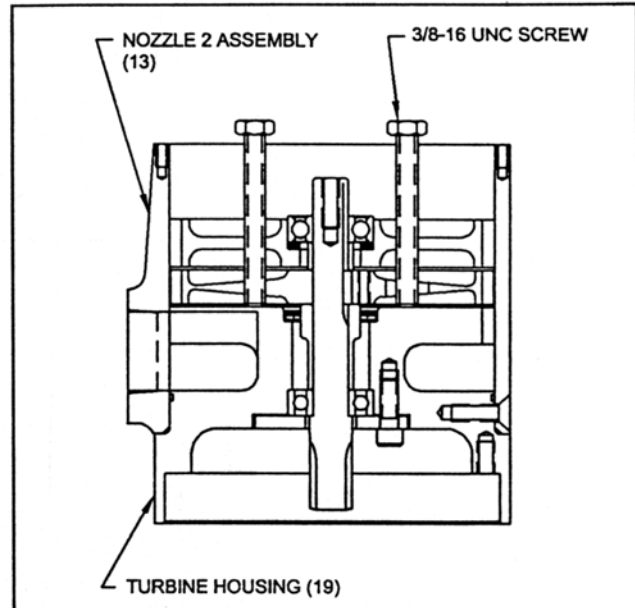

Figure 9. Nozzle 2 Removal
Remove five screws (14) from the stage 2 nozzle (13) and separate it from turbine housing (13). If turbine housing is too tight, it can be removed by installing two threaded screws into nozzle 2 (exhaust end) and using them as jacks to separate the turbine housing from nozzle 2. Refer to Figure 9.